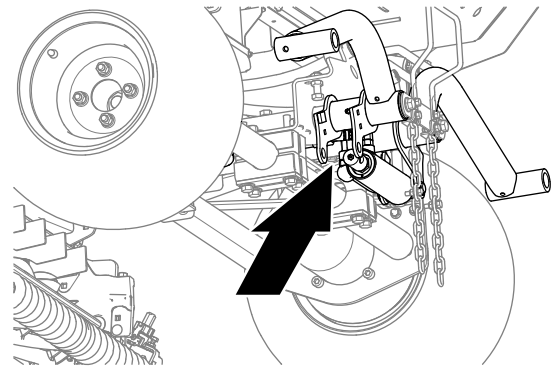

Figure 13
1. Align a drain pan below the hydraulic fittings of the lift cylinder (Figure 13).